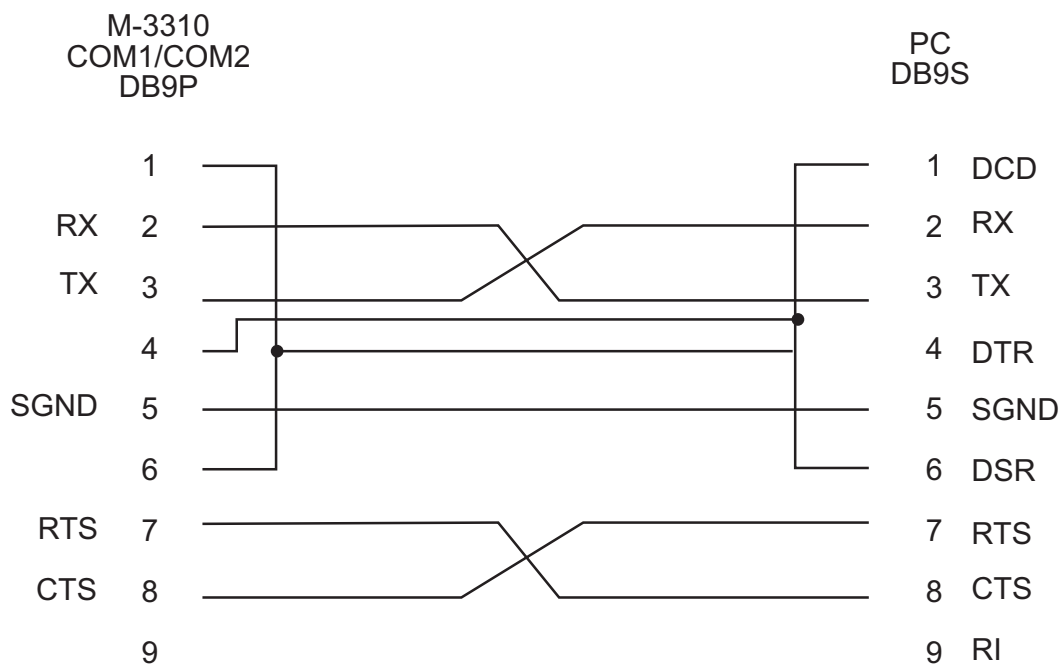

Figure B-1 Null Modem Cable for M-3310
A null modem cable (see Figure B-1) allows direct connection to a personal computer (PC), if desired.